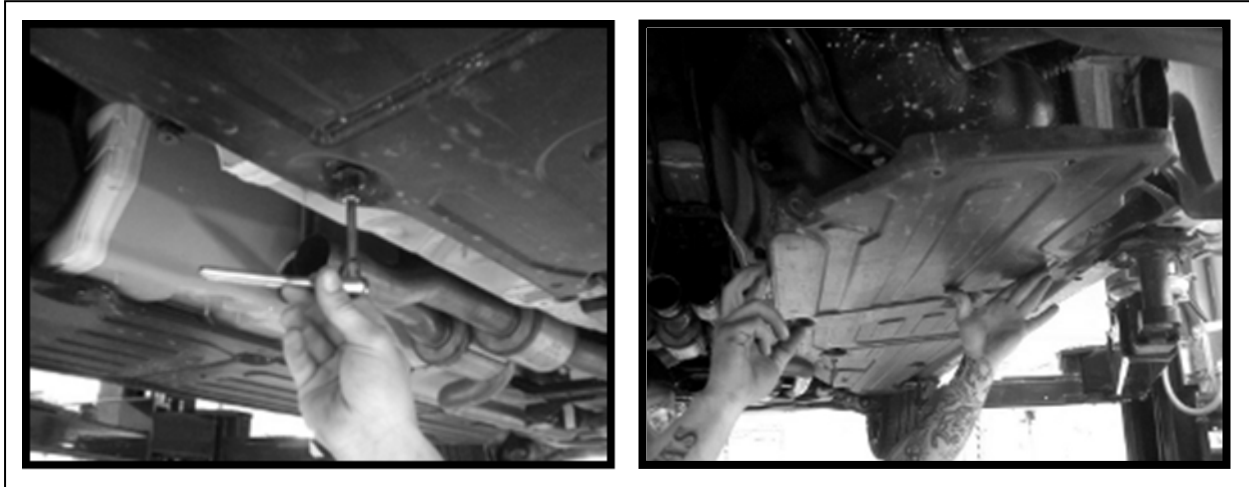

FIGURE 10-19
22.0 REMOVE ROCK GUARD. (FIGURE 10-19)